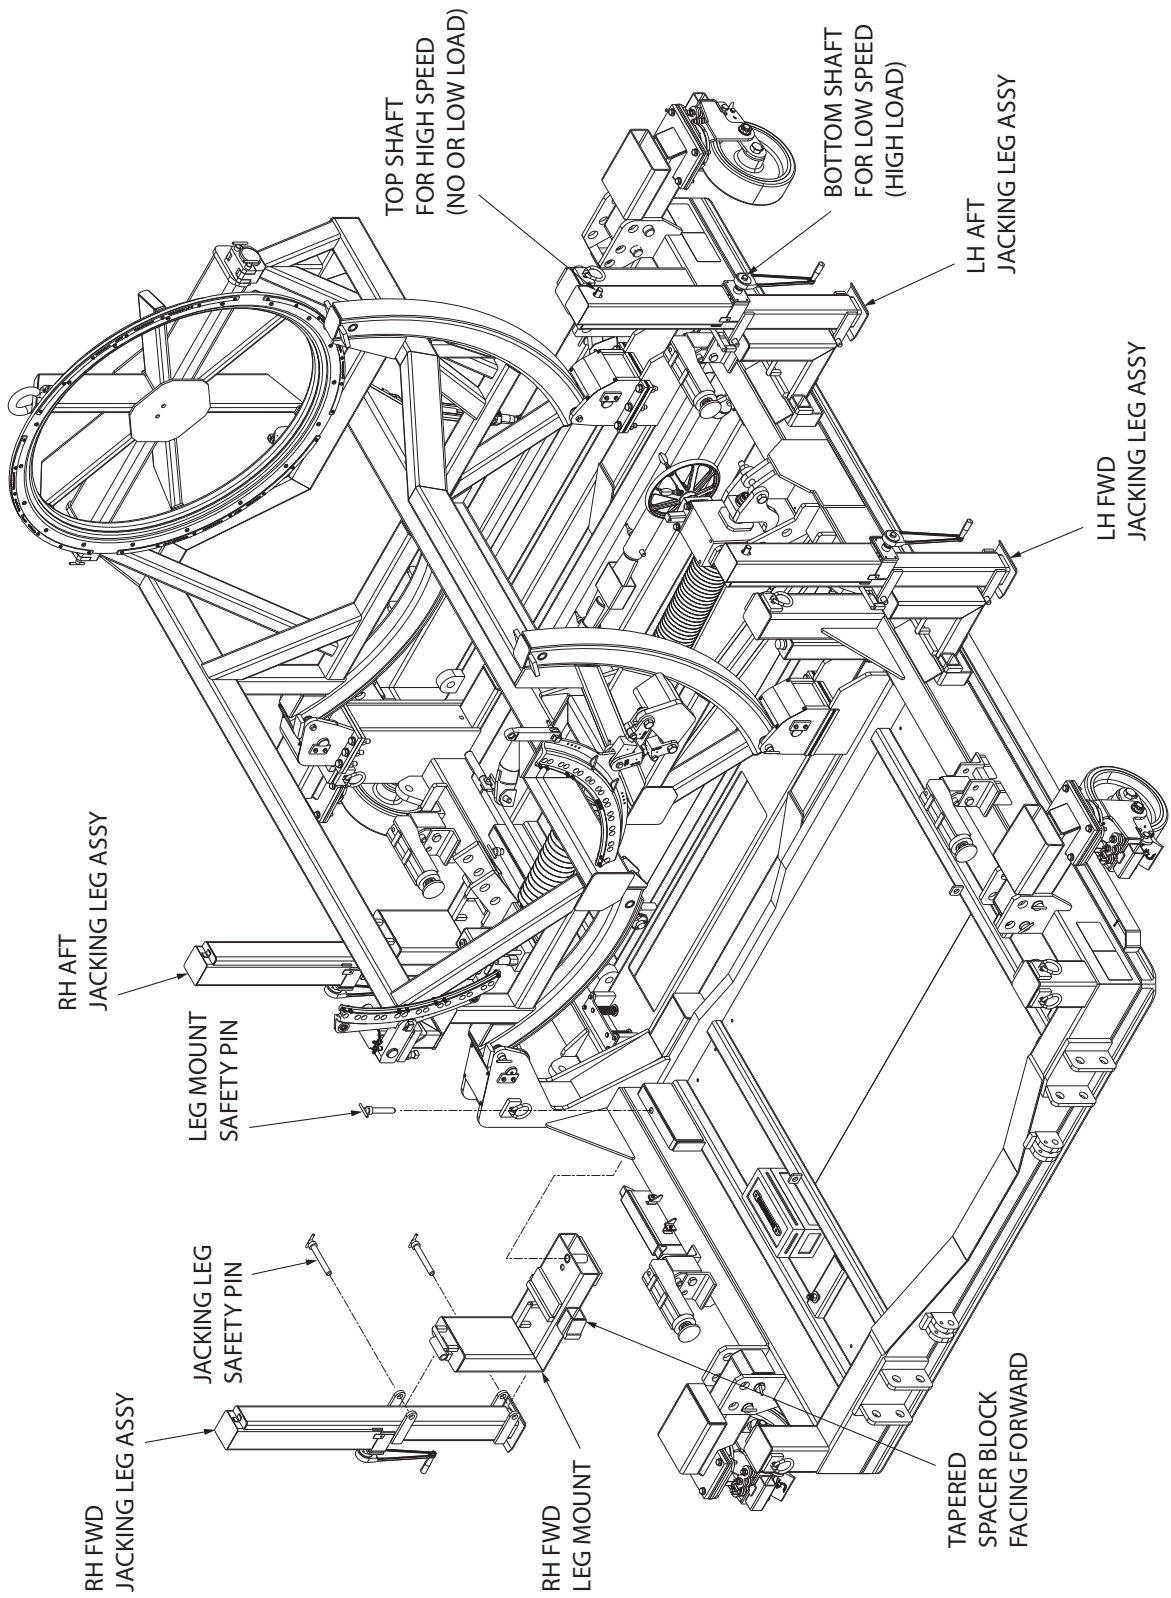

Figure 5.7-1 Manual Jacking Legs Installation
5.7 Manual Jacking Legs Usage and Operation (Figure 5.7-1)